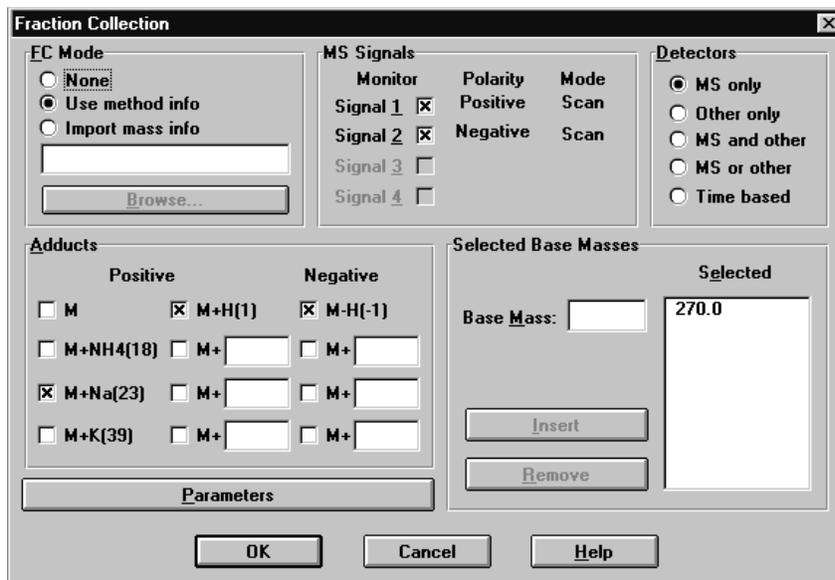

Figure 4
The Agilent 1100 Series LC/MSD can also be used as part of an integrated system with the Agilent 220 micro plate sampler and the micro plate sampling software. When equipped with the mass based fraction collector kit (part number G1967B), the 1100 Series LC/MSD is capable of monitoring up to 16 m/z values to decide whether to trigger the Agilent 220 MPS for fraction collection. Since the complete solution is designed for synthetic chemists, the user will input target molecular weights and an adduct list. For example, if the chemist made a compound with molecular weight of 270, they would input a base mass of 270, and specify M+1 and M+Na(23) as adducts. If they were also doing negative ion mode, they could specify M-1 as an adduct. The 1100 Series MSD would actually monitor m/z 271, 293 and 269. If one adduct is specified, 16 base masses are possible, if 2 are specified, 8 masses are possible, and so on. Besides choosing the masses to monitor, it is also necessary to set several parameters in the *Fraction Collection* window (figure 4) to correctly collect peaks.